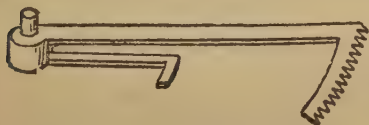

Fig. 2—STRIKING RACK
**Striking Mechanism.**—When setting the hands of any striking clock some care is needed. Many French clocks have a "snail" on the hour wheel beneath the dial, and a toothed rack for controlling the strike (Fig. 2). In such clocks the hands may be turned forward at all times up to twelve o'clock without waiting for the striking at each hour and half-hour. At twelve, however, the clock must be allowed to strike before the hands are again moved. It is the minute hand only that should be turned. In French clocks of another, older type there is a notched circular "locking plate" (Fig. 3) at the back of the movement, connected to the striking wheels, and the hands must be turned forward half-hour by half-hour, allowing the clock to strike at each period. Do not turn back the hands of *any* striking clock. If you wish to set the time back, rather stop the clock and wait